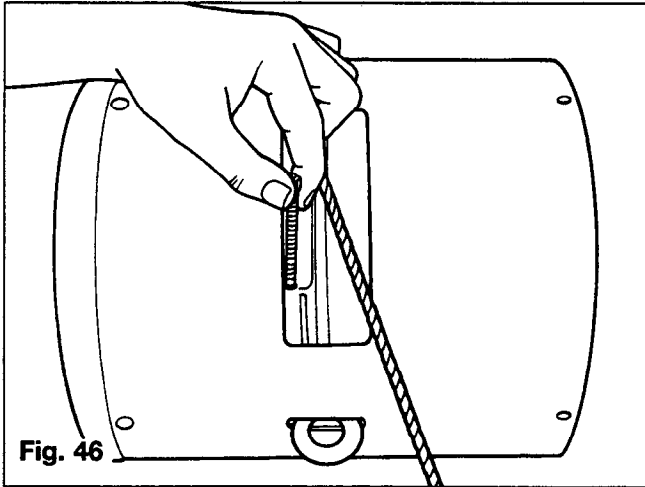

Fig. 46
8. Push the wire rope into the unit until the swaged fitting is exposed. Pull on the swaged fitting to remove wire rope (Figure 46). On units with chain remove anchor bolt and chain.